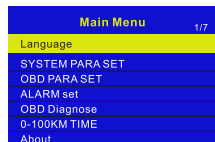

Figure 2-3
2)Long press the ESC key to enter the settings, here you can set: Language, System para set, OBD para set, Alarm set, OBD Diagnose, 0-100km Time, About, As shown in Figure 2-3